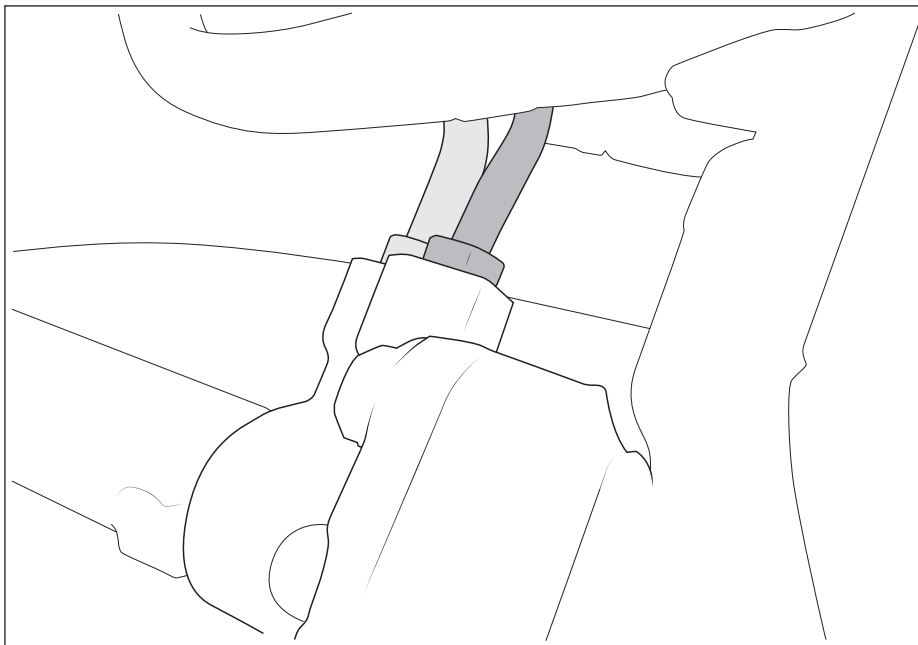

Figure 2
3. Unscrew both lines going to the top of the gear box (fig. 2). Fluid from reservoir will drain out so have a drain pan handy.